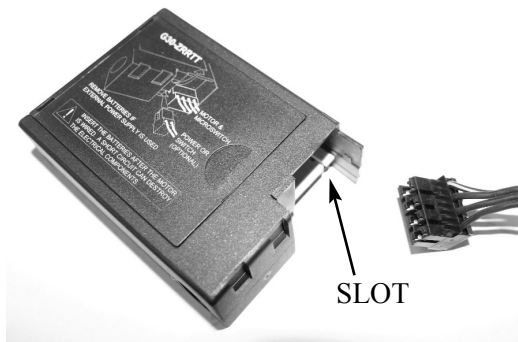

Fig. 17a
1) Carefully push the multi block connector on to the connection within the receiver unit as shown in Fig. 17a. This connector can only fit one way, so ensure the slot in the receiver's board lines up with the moulding within the multi block connection.